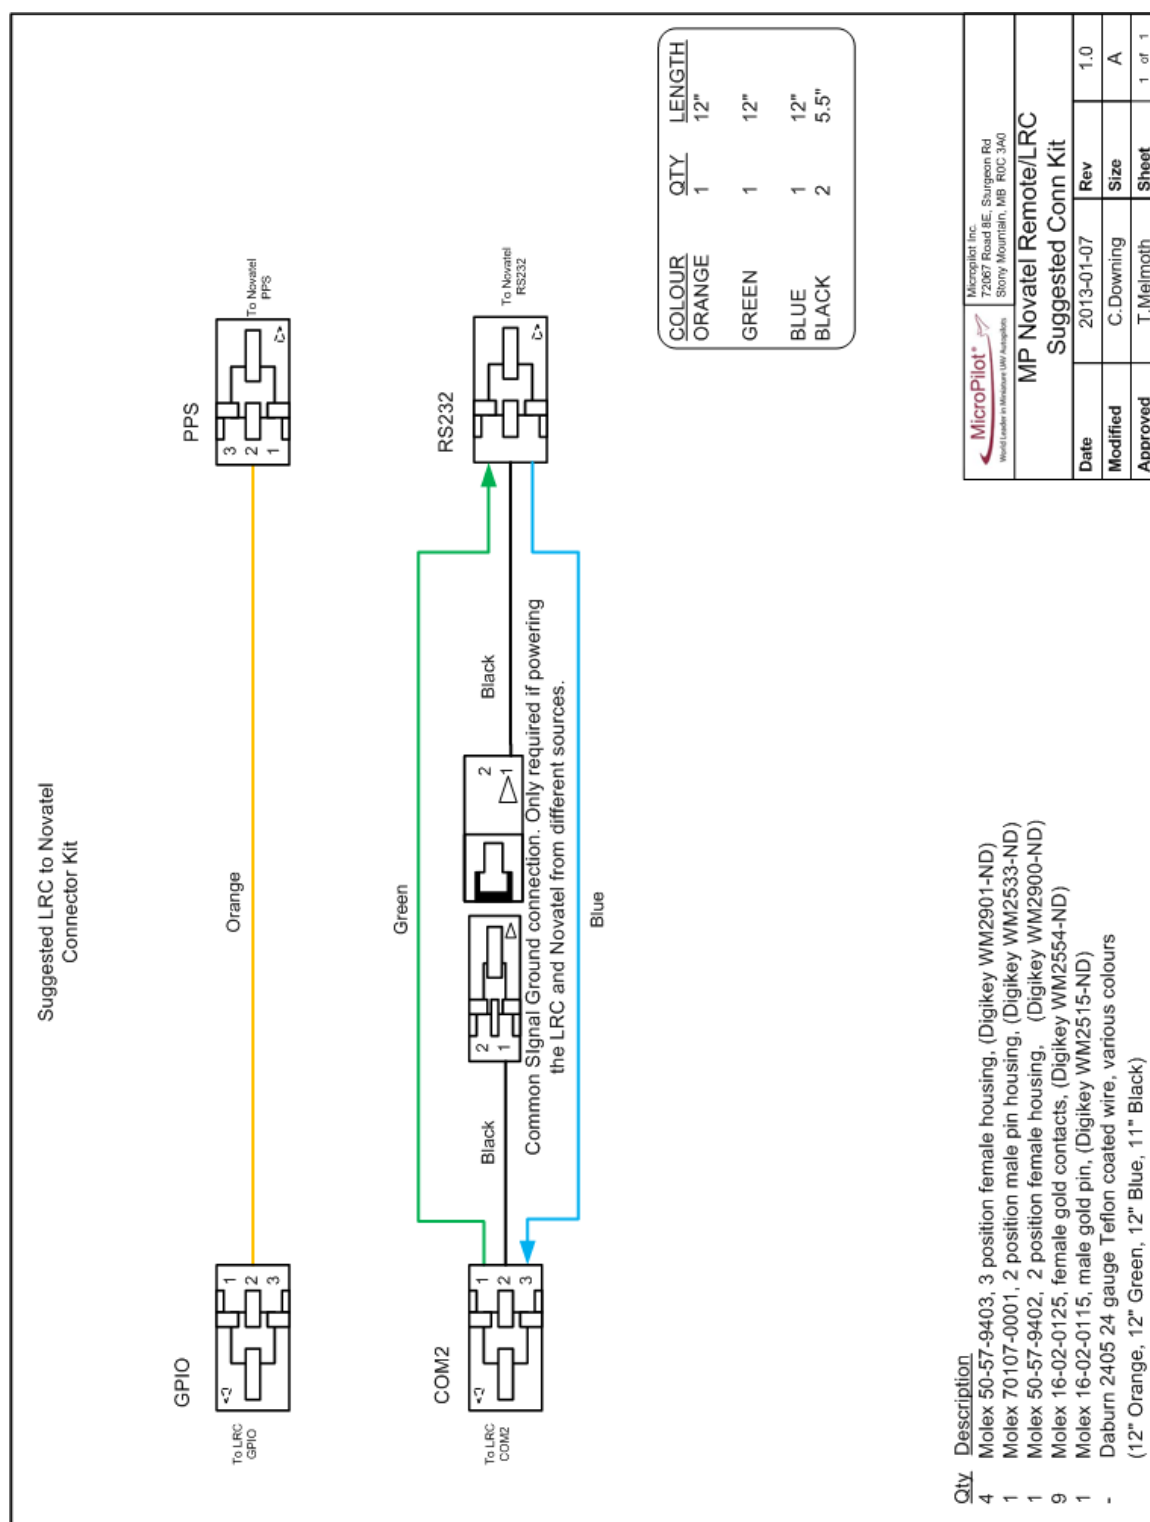

Figure 11 – MP-NovAtel Remote/LRC Suggested Connector Diagram
See Figure 11 – MP-NovAtel Remote/LRC Suggested Connector Diagram.
4. When powering the autopilot and MP-NovAtel Remote from the same supply make sure to **Disconnect** the black ground-wire connection shown in Figure 11 – MP-NovAtel Remote/LRC Suggested Connector Diagram to avoid a ground loop.
5. If the user decides to power the MP-NovAtel Remote from a separate power supply as the LRC autopilot, then make sure that the black ground line shown in Figure 11 – MP-NovAtel Remote/LRC Suggested Connector Diagram is connected, to ensure the signals have a common reference. It is possible to tie the battery negatives together to make a common ground between devices.